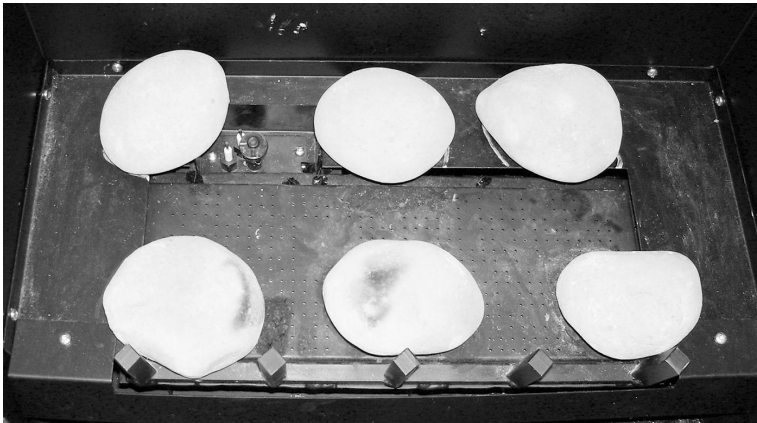

Figure 37 - Placing the first layer of the stones (#1-6)
1. Place the first six stones (#1-6) as shown on *Figure 37*. **IMPORTANT:** Avoid ports when placing stones on burner.